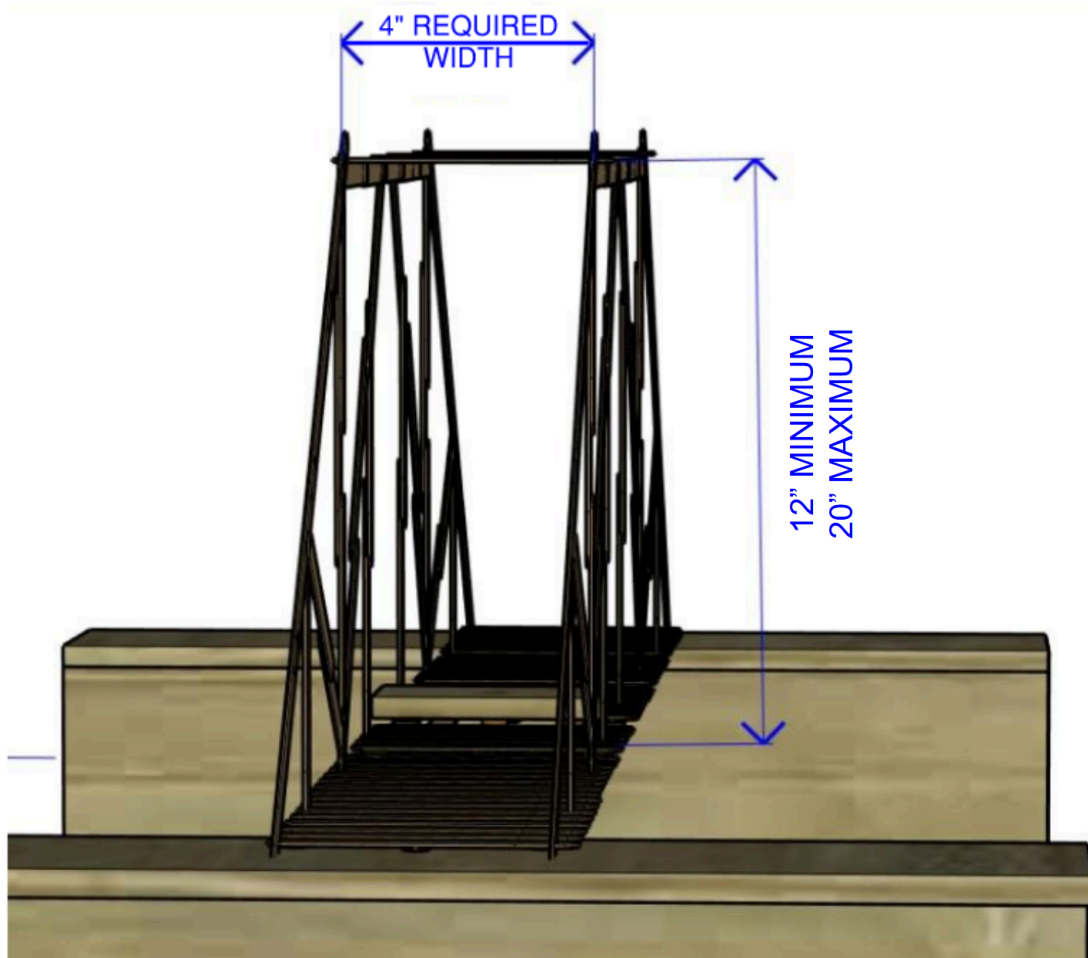

Figure 6 - Roadway Clearance and Height Requirements (not to scale)
- Bridge height shall not exceed 20-inches. Refer to Figure 6 below.
- Bridge roadway must have a minimum 4-inch width and a minimum 12-inch height clearance throughout to accommodate bridge use. Refer to Figure 6 below.